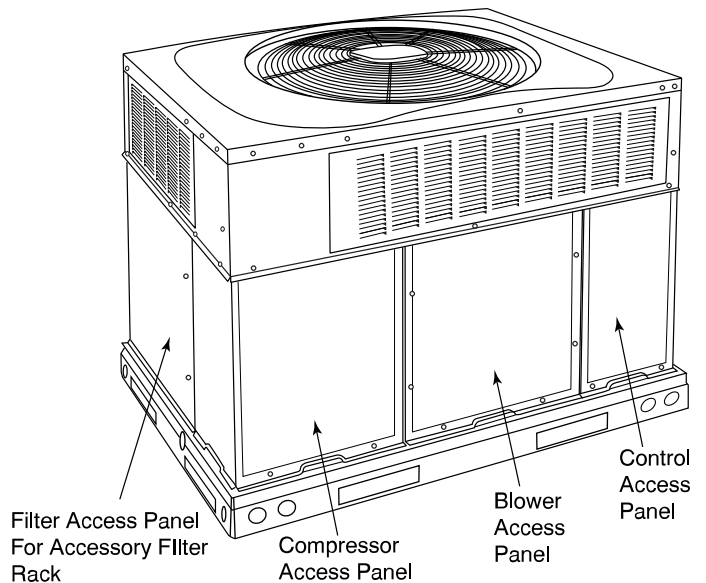
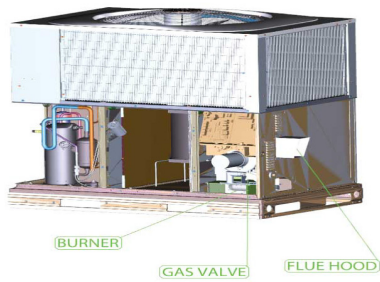
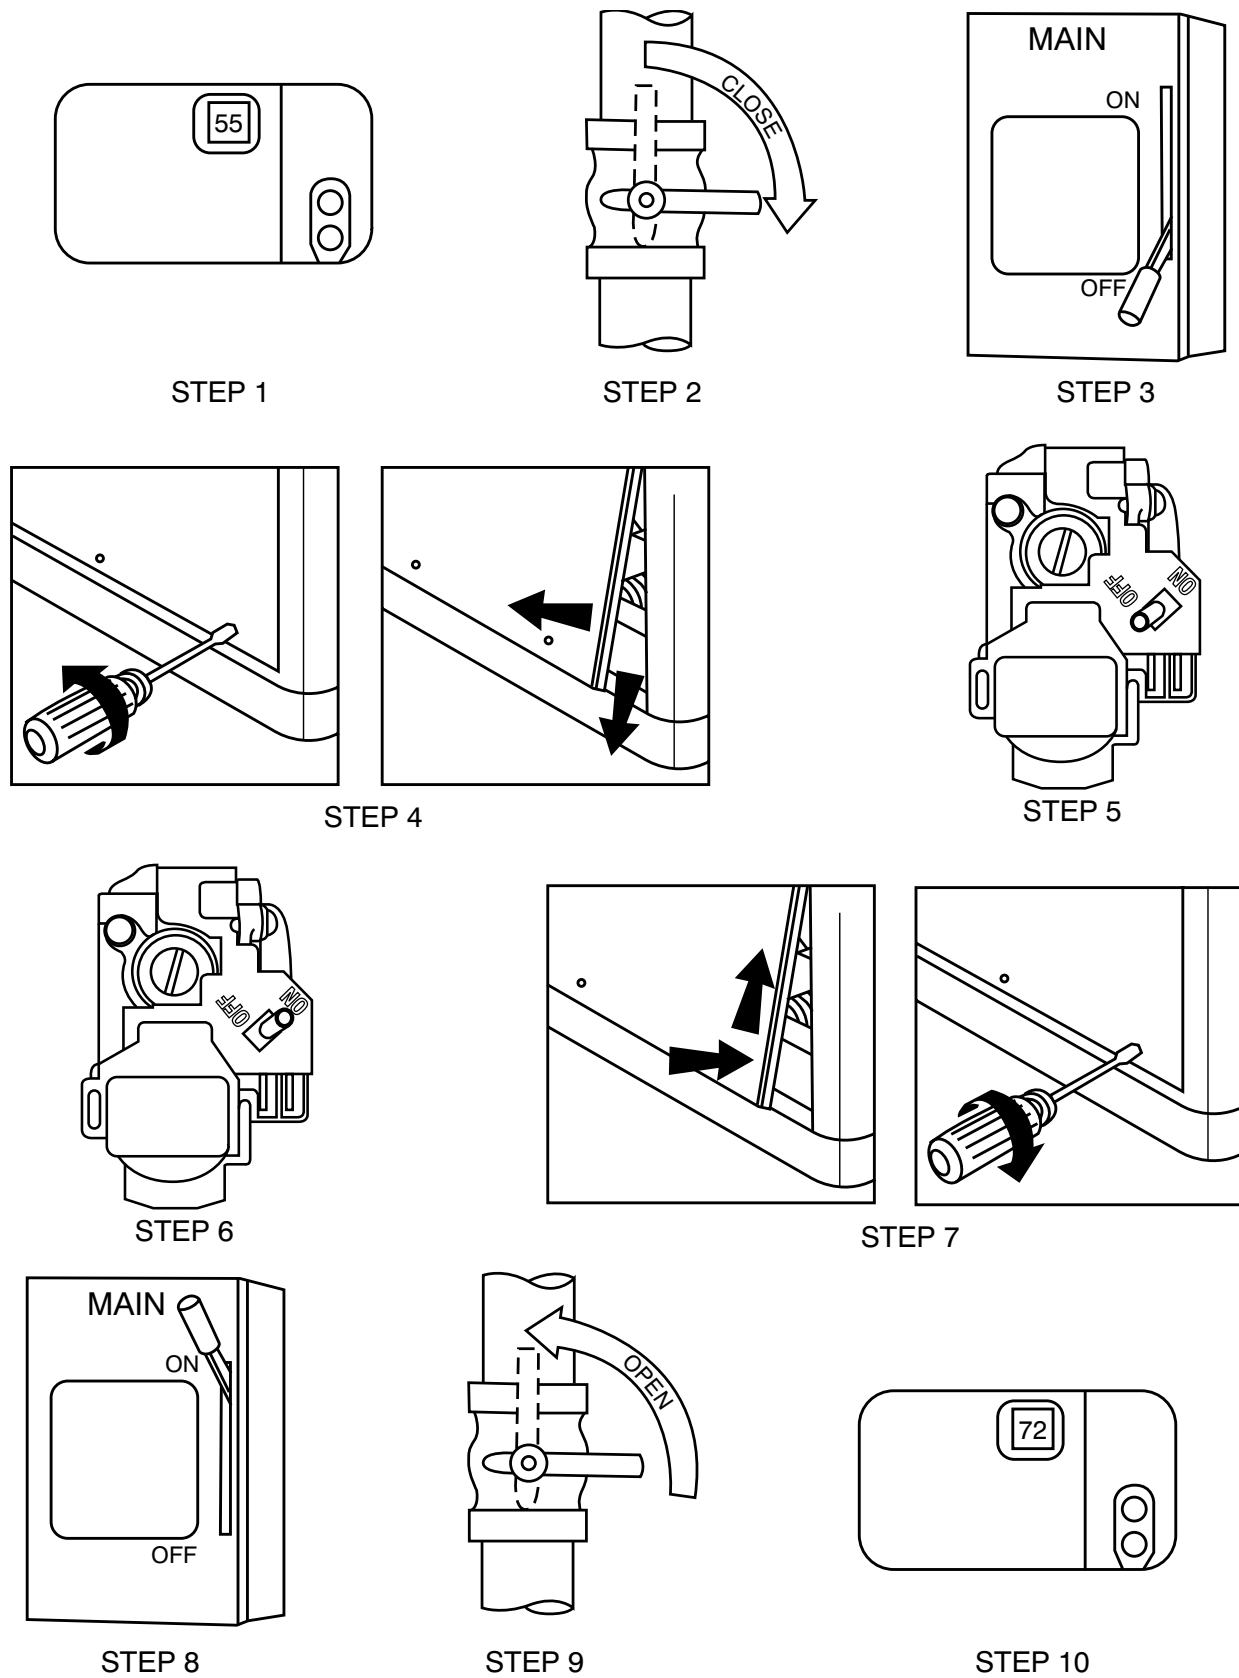

Fig. 2 – Unit Access Panel
Fig. 3 – Gas Heating/Electric Cooling Unit with Access Panel Removed ^{A210171}
Fig. 4 – To Start Unit Gas Heat
Refer to Fig. 2 for location of unit front access panel. Refer to Fig. 3 for location of gas valve. Refer to Fig. 4 while proceeding with the following steps.
4. Remove the control access panel with a 5/16-in. nut driver. (See Fig. 2.)
4. Remove the control access panel. (See Fig. 2.)
To replace or inspect filters in accessory filter rack (See Fig. 2):